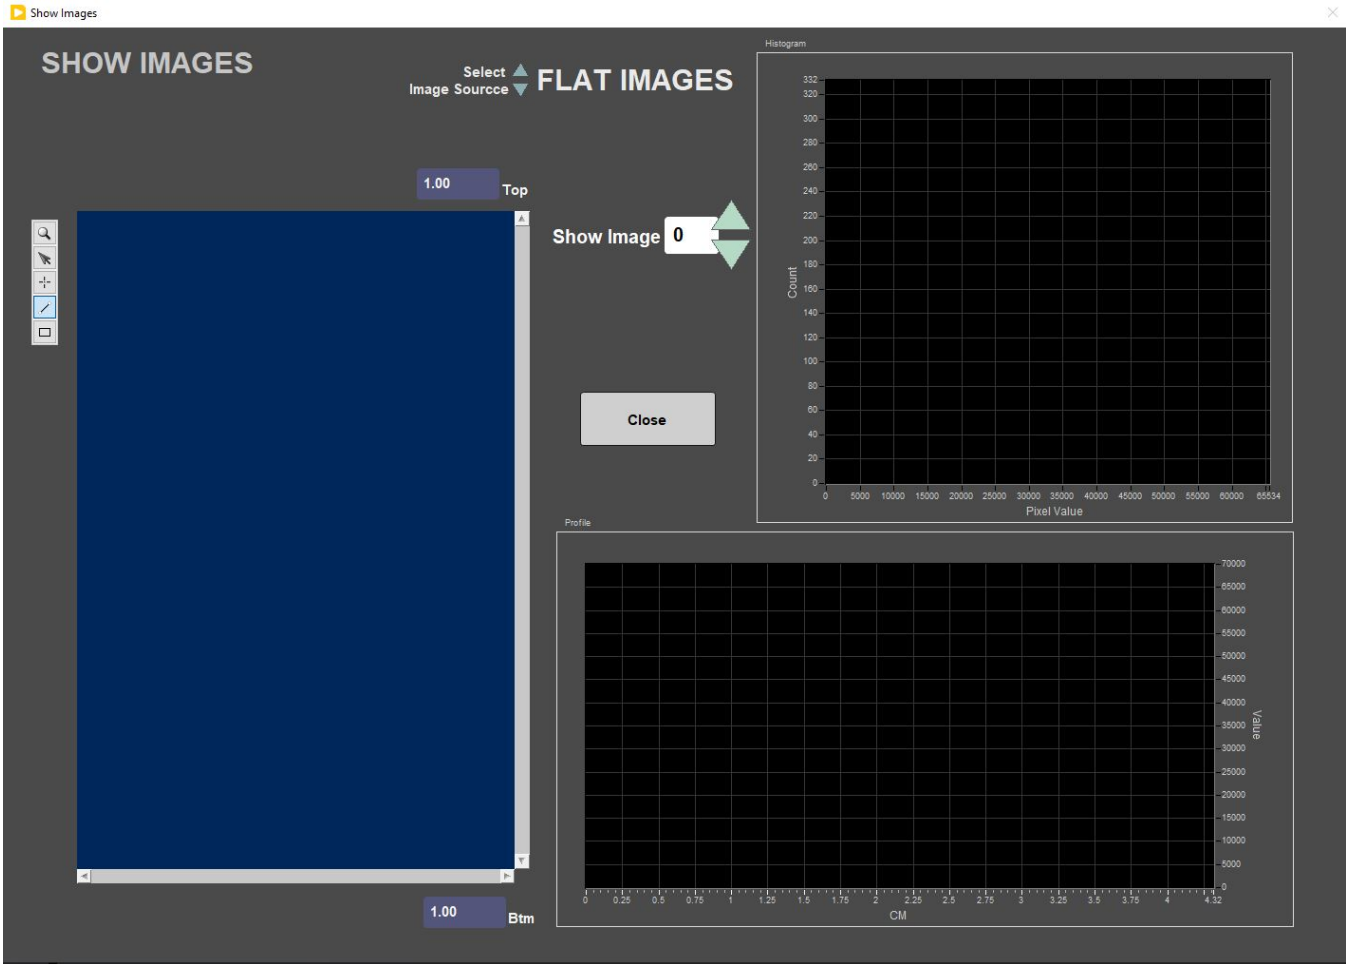

Figure 45B. View Last Images utility
**View Last Images** utility can be found under *Instruments > XMSL: View Last Images* (Figure 45B). This utility is useful review the characteristics of the selected images.